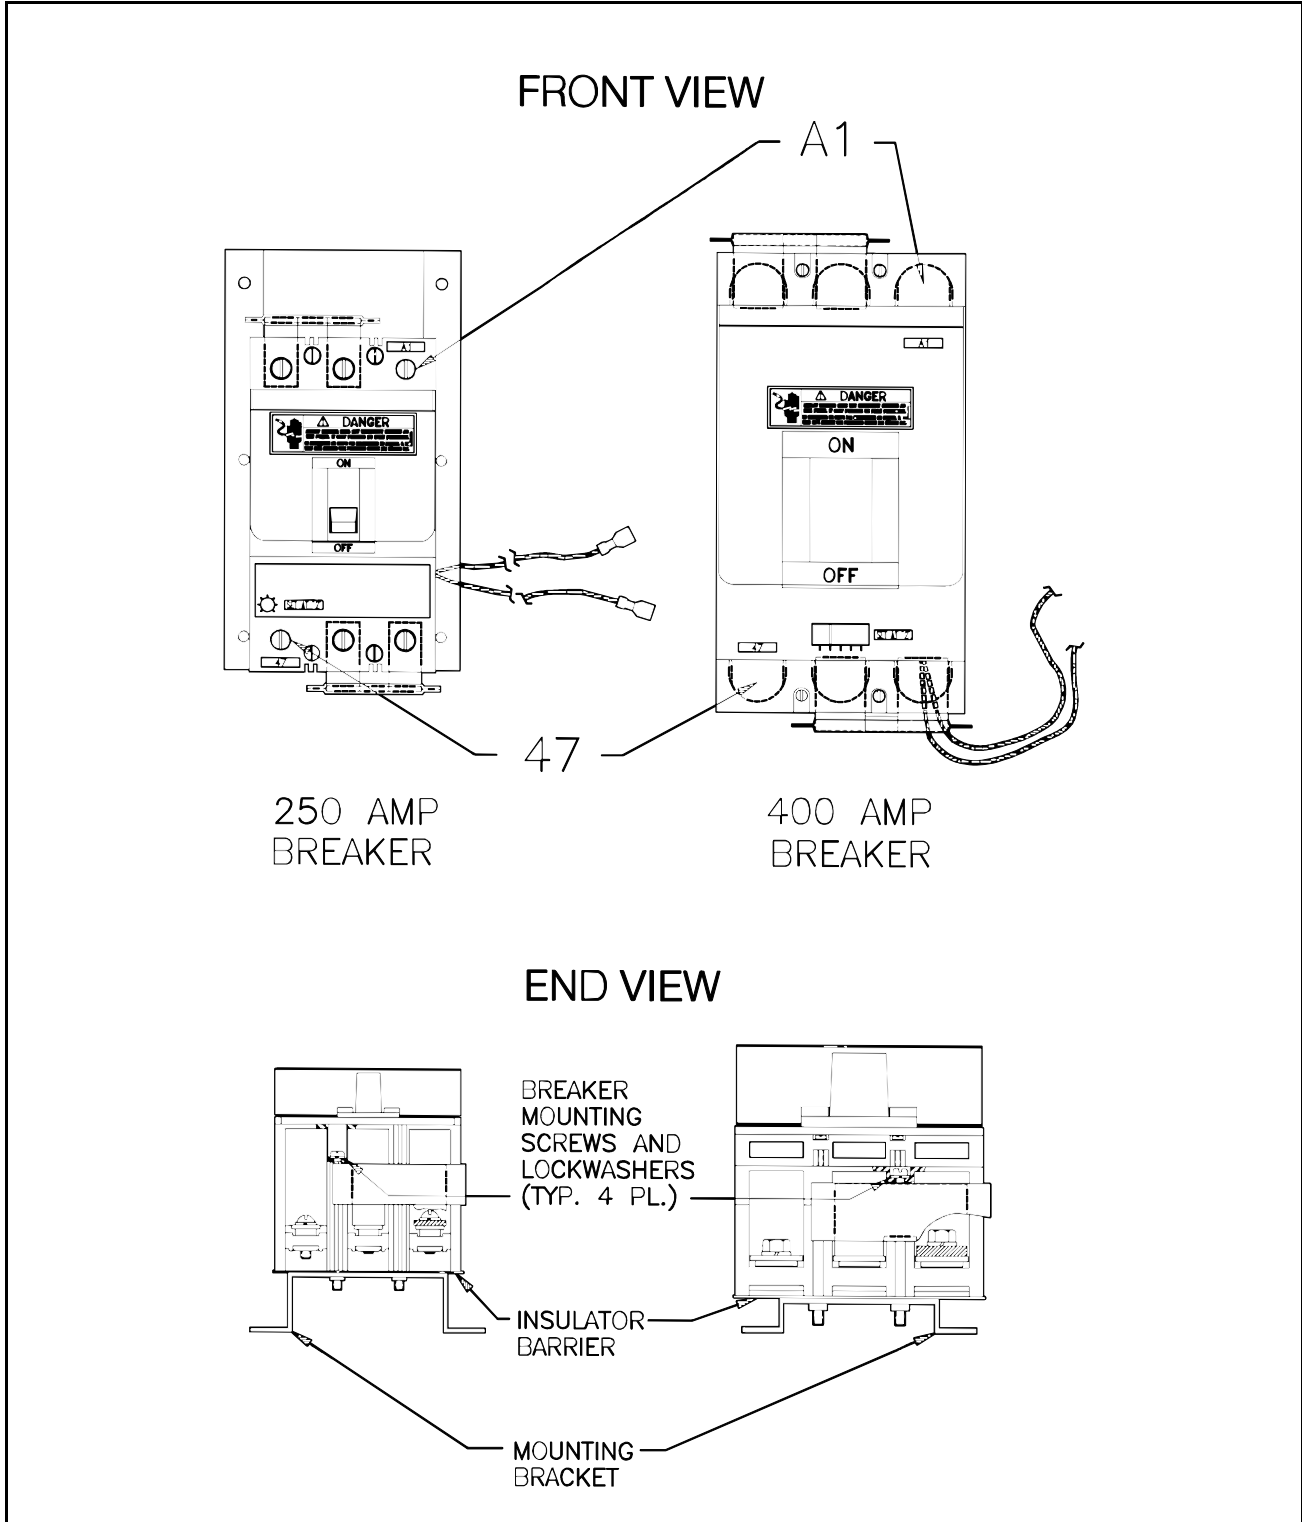
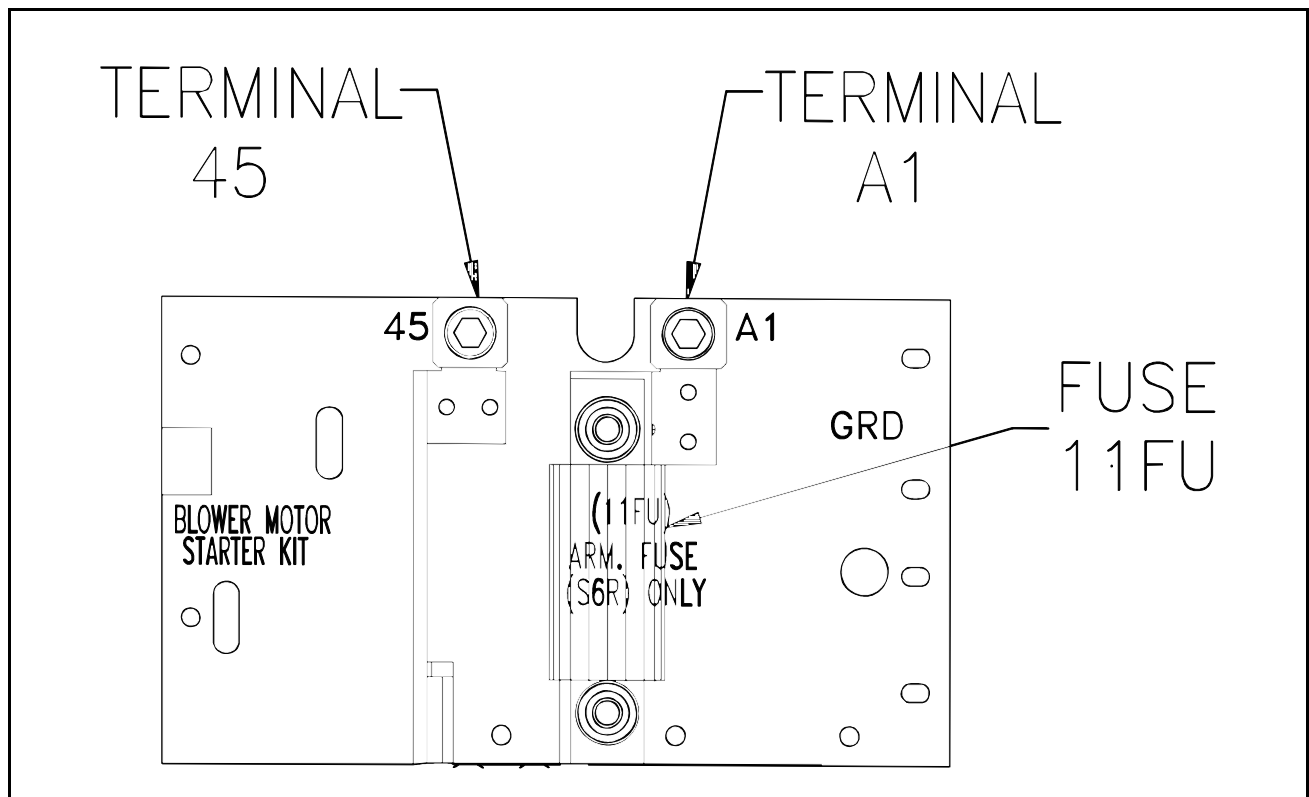
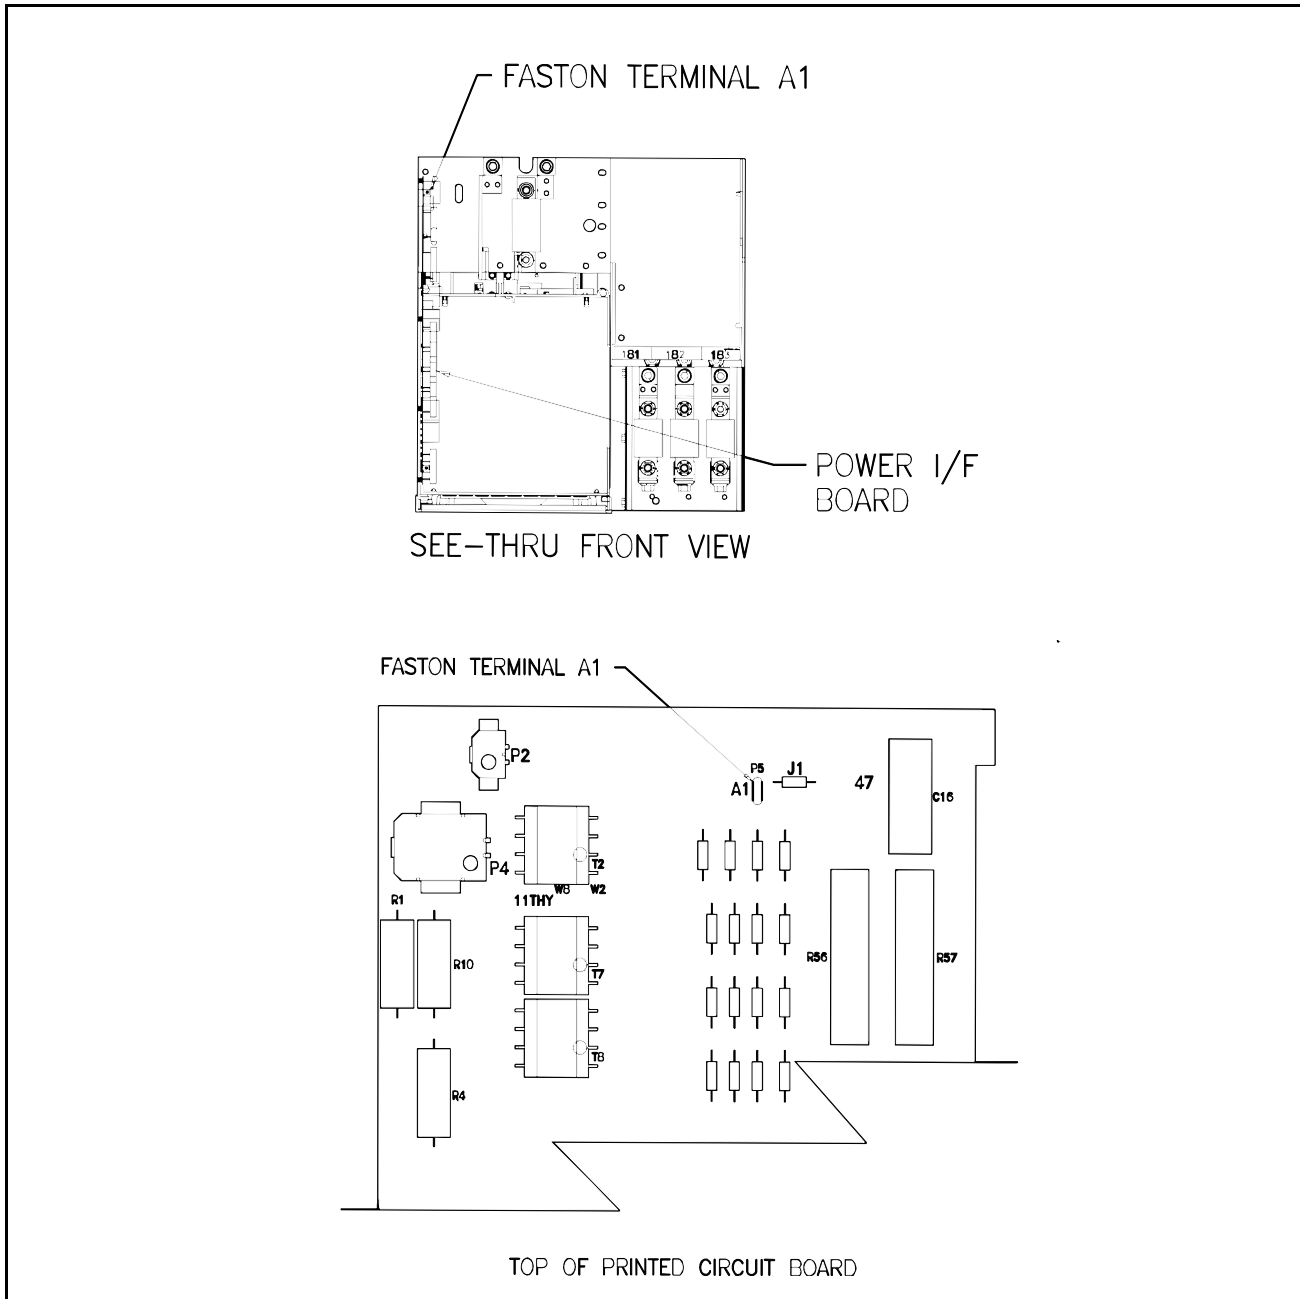

Figure 2 – Inverting Fault Circuit Breaker Mounting and Terminal Locations
Figure 3 – Drive Motor Terminals
Figure 4 – Power Interface Board and Terminal A1 Locations
Step 7. Refer to Figure 2. Mount the circuit breaker assembly [Item 1] and the insulating barrier [Item 4] on the mounting bracket with the four (4) M5 or M6 screws [Item 5] and washers [Item 6] provided with the kit.
- Step 1. Route, but do not connect, motor armature lead A1 to Inverting Fault Circuit Breaker terminal A1. See Figure 2 for the location of the breaker's A1 terminal. Terminate the breaker side of the lead with a lug of the appropriate gauge, but do not connect the lug to breaker terminal A1. The inside lug diameter should accept a 1/4" stud for the 250 A breaker or a 3/8" stud for the 400 A breaker.
- Step 2. Using wire of the same gauge as the motor leads, connect Inverting Fault Circuit Breaker terminal 47 (see Figure 2 for location) to drive motor terminal A1 (see Figure 3 for location). Terminate the breaker side of the wire with a lug of the appropriate gauge. The inside lug diameter should accept a 1/4" stud for the 250 A breaker or a 3/8" stud for the 400 A breaker.
- Step 3. Connect motor armature lead A2 to drive terminal 45 (see Figure 3 for location).
**If the motor series field is used:** Connect motor armature lead A2 to motor field lead S1. Then connect motor field lead S2 to drive terminal 45 (see Figure 3 for location).
Step 1. Locate and remove the jumper wire connecting drive terminal A1 (see Figure 3) to terminal A1 on the Power Interface board, located at the top left of the drive. (See Figure 4 for the location of the Power Interface board and for the location of terminal A1 on the Power Interface board.)
Step 3. Connect the spade connector on the wire assembly [Item 8] to the A1 terminal on the Power Interface board. (See Figure 4.) Route this wire to Inverting Fault Circuit Breaker terminal A1. Cut the wire to length as required and terminate the end with the ring lug [Item 9].
- Step 3. Connect the spade connectors of the twisted pair harness [**Item 10**] to the male connectors on the yellow and the blue/yellow striped leads coming out of the Inverting Fault Circuit Breaker (see Figure 2). Route this harness down to the bottom of the drive. Cut the wires to length as required, and connect them to terminals 9 and 11 on the regulator control terminal strip. See Figure 5.